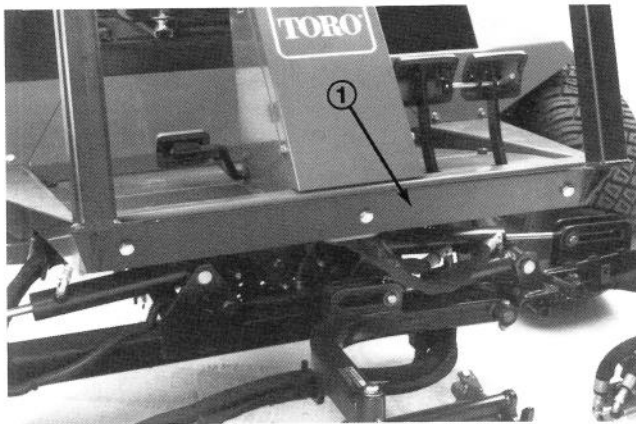

Figure 5
3. Secure front of roll bar to frame with (3) 1/2 x 13 – 1–1/4" lg. capscrews, 1/2" flatwashers, 1/2" lockwashers and 1/2 – 13 locknuts (Fig. 5). Tighten all fasteners securely.